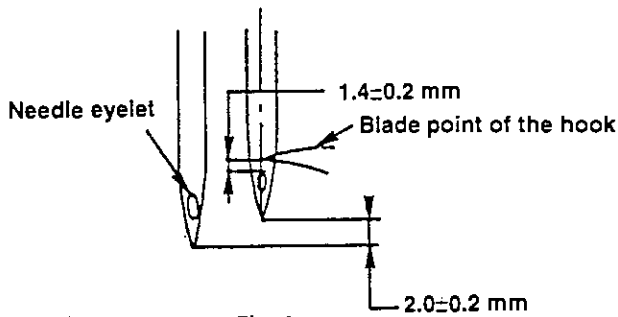

Fig. 2
<ol style="list-style-type: none"> 1. Set the stitch dial at "0" on the scale. (Fig. 1) 2. Turn the handwheel to bring the needle bar to the lowest dead point. 3. Loosen clamping screw ① of the needle bar connecting stud (Fig. 3) 4. Adjust the height of the needle bar to the specified dimension. (Fig. 2) 5. Tighten needle bar connecting stud clamping screw ①. (Fig. 3) 	<ul style="list-style-type: none"> ○ Stitch skipping and thread breakage may result. <p>4' At this time, align the bottom face of the needle bar frame with the marker line engraved on the needle bar (the upper one of the two marker lines engraved on the needle bar). This will enable you to adjust the height of the needle bar almost to the specified dimension.</p>